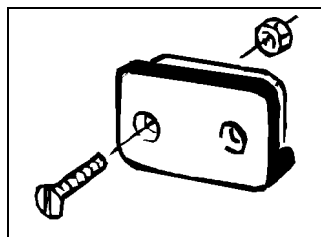

Fig. 7
1. Fix the mounting bracket (Fig. 7) of the calculator inside the tractor cab.